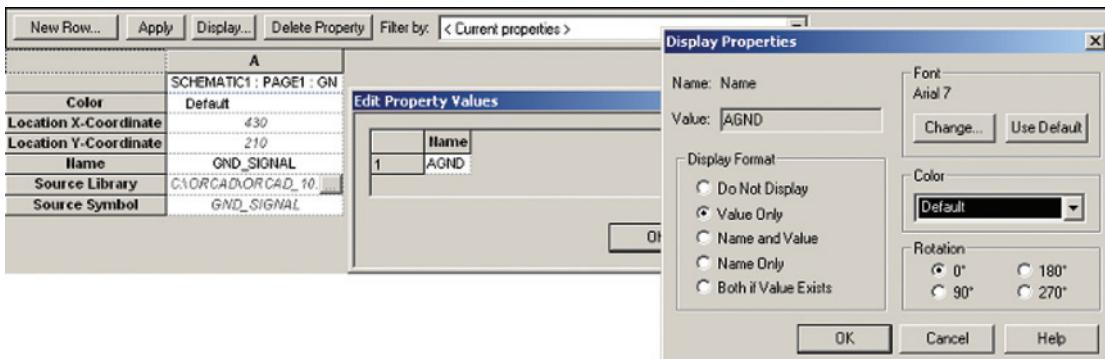

Figure 9-61 (a) Change a ground/power symbol's name and (b) display it.
**To place the analog and digital ground symbols** use the Place Ground tool,  and select the desired ground symbols. To change the symbol's name select the ground symbol (for example, from GND\_SIGNAL to AGND), select the symbol on the schematic page to highlight it, right click, and select **Properties** from the pop-up to display the properties spreadsheet (see Fig. 9-61(a)). Select the **Name** row, right click, and select **Edit** from the pop-up to display the **Edit Property Values** dialog box. Enter the new name of the ground symbol and click **OK**. **To display the name of the symbol** on the schematic page click the **Display** button on the top of the spreadsheet and select the appropriate radio button on the **Display Properties** dialog box (Fig. 9-61(b)).